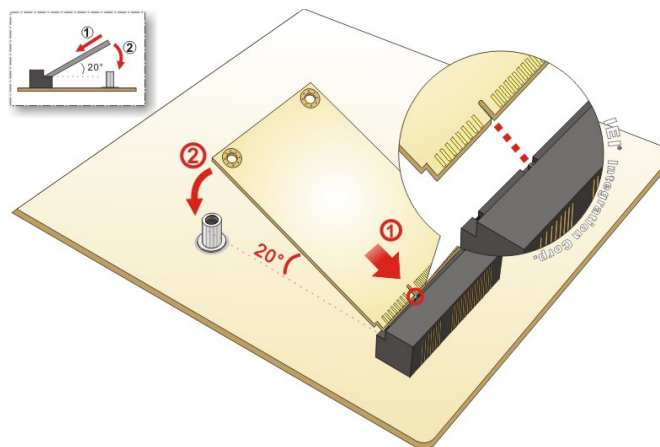

Figure 4-5: Inserting the Full-size PCIe Mini Card into the Slot at an Angle
- Step 3:** Line up the notch on the module with the notch on the slot. Slide the M.2 module into the socket at an angle of about 20° (**Figure 4-5**).
Step 3: Line up the notch on the card with the notch on the slot. Slide the PCIe Mini card into the socket at an angle of about 20° (**Figure 4-5**).